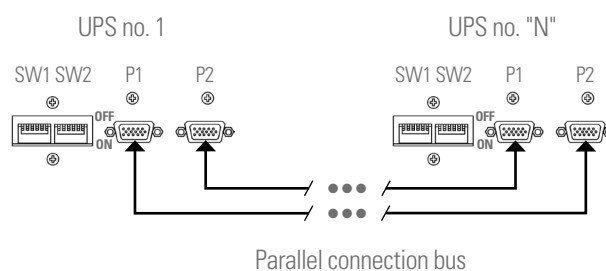

Fig. 39. DB15 communication bus connectors.
- **Parallel connection bus.** Use the 15-conductor shielded signal cable with DB15 connectors at the ends to connect a maximum of 5 subracks in the sequence shown in Fig. 39. Each cable has a male and a female connector at the ends, which must be connected between two consecutive devices. The parallel bus loop must be closed.
Fig. 39 shows an installation with two devices in parallel. For five follow a similar process to close the communications bus.